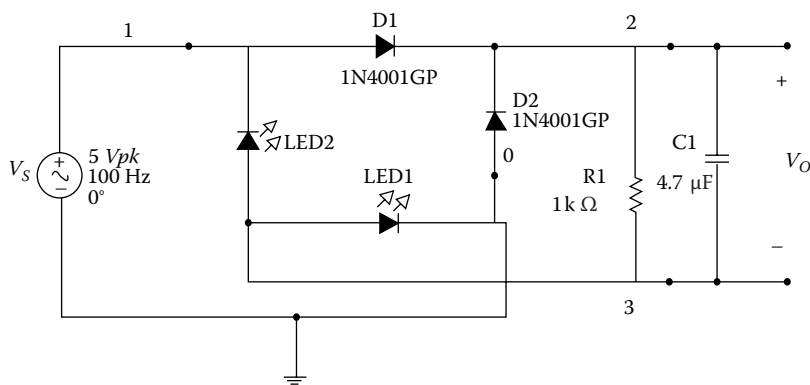

FIGURE P6.8
Problem P6.8 A full-wave rectifier, built using LEDs, diodes, and an RC filter, is shown in Figure P6.8. LED1 is a green LED, and LED2 is a red LED. (1) Use the Analog Discovery board to display the input and output voltages. (2) What is the peak-to-peak voltage across the resistor R1?